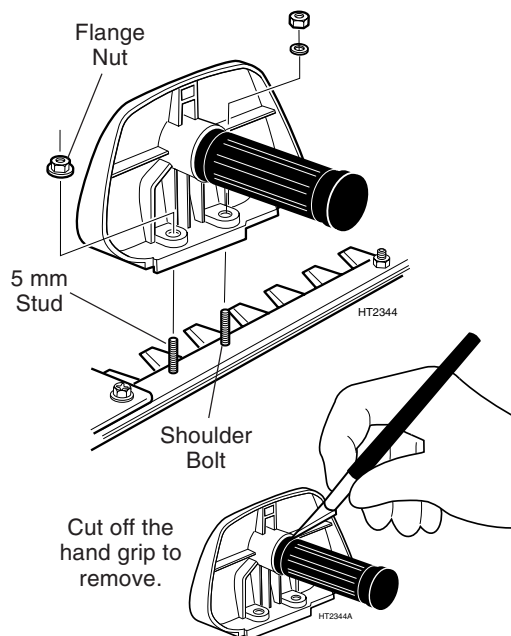

Figure 27. Removing the Front Handle and Shield.
STEP 1. Remove the 6mm nut and washer from the hand guard stud, remove the shoulder-bolt nut and washer, and then lift the hand guard assembly from the guide bar (Figure 27).